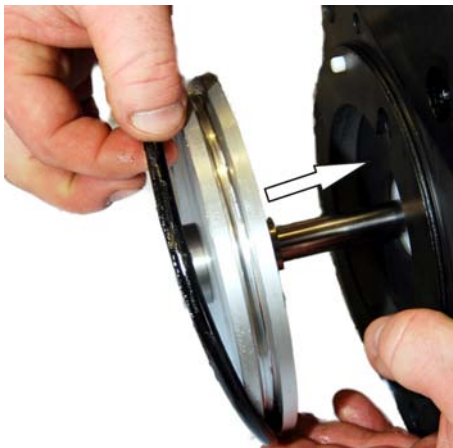

Fig. 73: Detaching the seal
13. Detach seal from air piston (Fig. 73).
15. Push back air piston in direction of lower cap (Fig. 73/arrow).